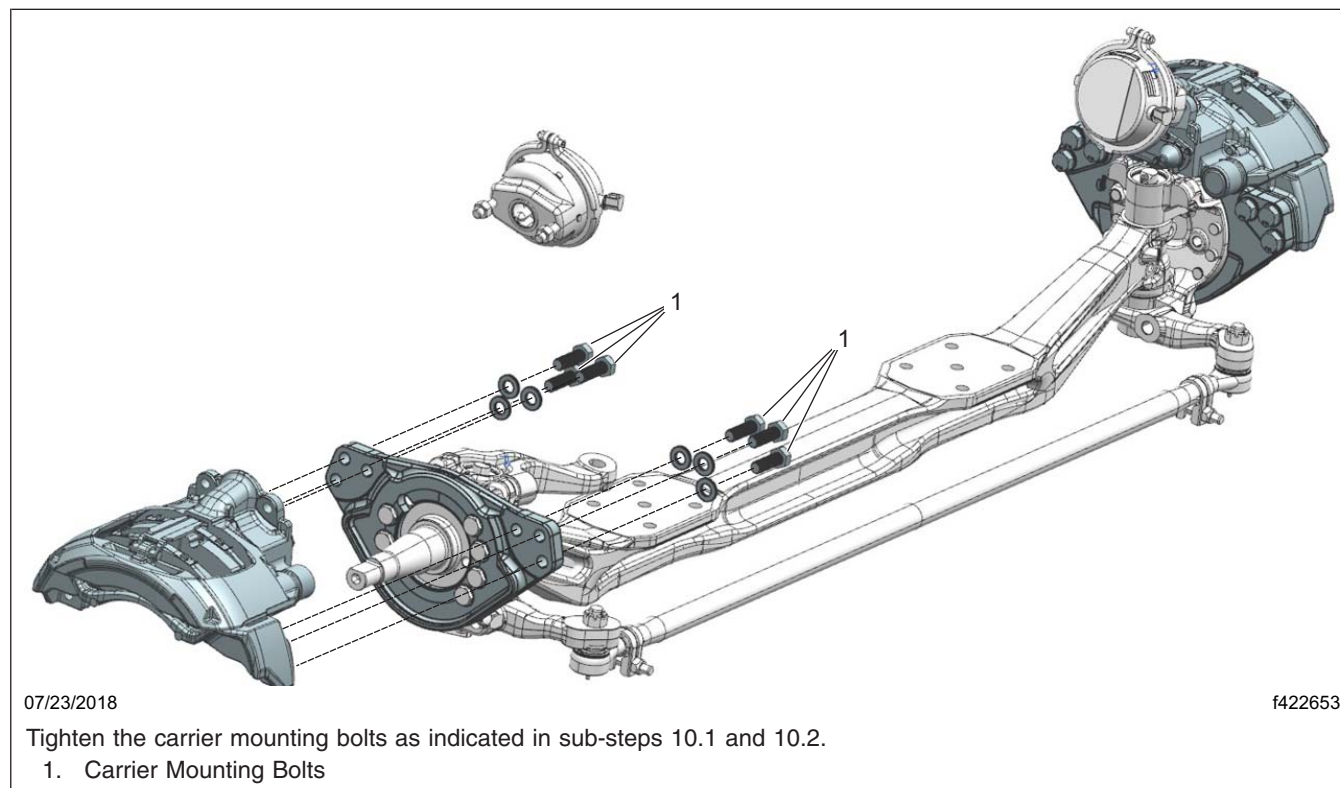

Fig. 1, Axial Mounted Caliper
5. Align each caliper/carrier assembly with the rotor by pushing the caliper against the shelf on the torque plate, then install the caliper/carrier assembly using new caliper mounting bolts. See Fig. 1.
6. Tighten the carrier mounting bolts in two steps as follows. See Fig. 1.